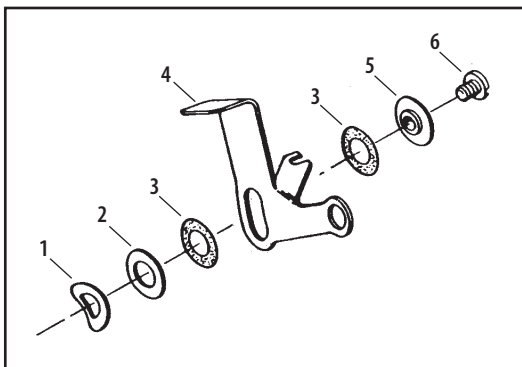

Figure 1
- 2- Install the fast idle lever assembly as shown in **Figure 1**. Apply a small amount blue threadlocker to the threads of the screw and thread into the backplate. Be careful not to overtighten.